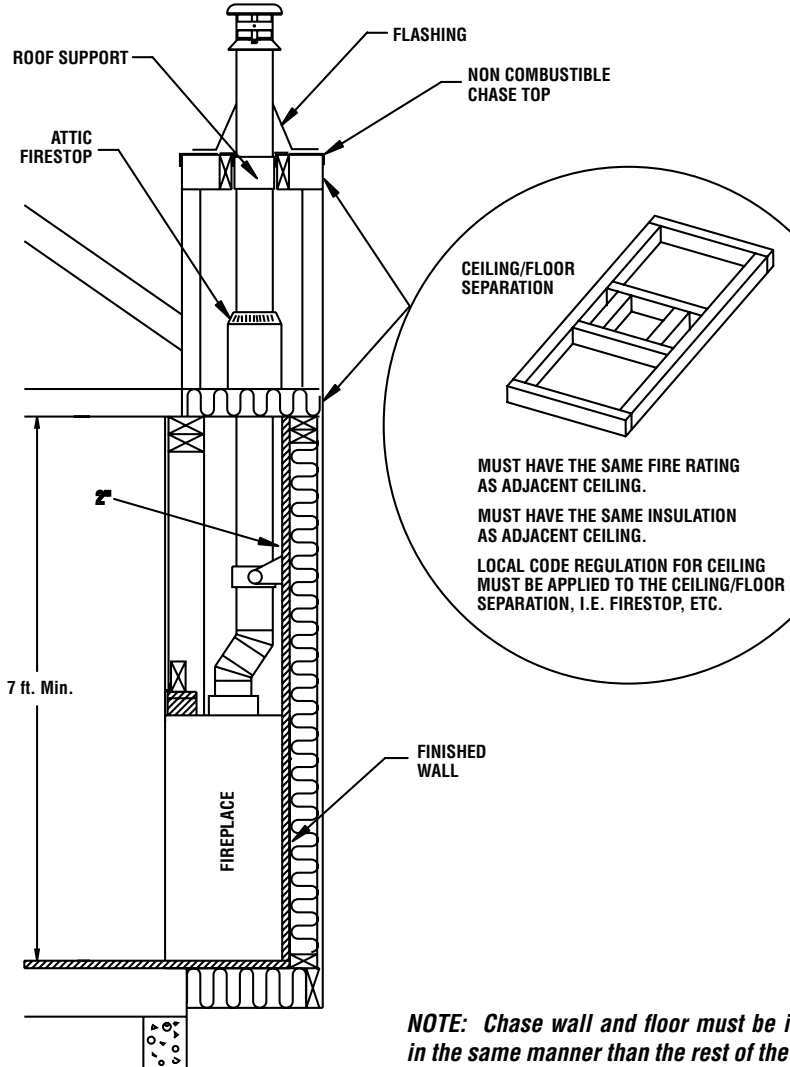

Figure 5
1. The fireplace must be installed against a finished wall (like drywall finish). It must not be installed against a vapor barrier or exposed insulation (see *Figure 5*).